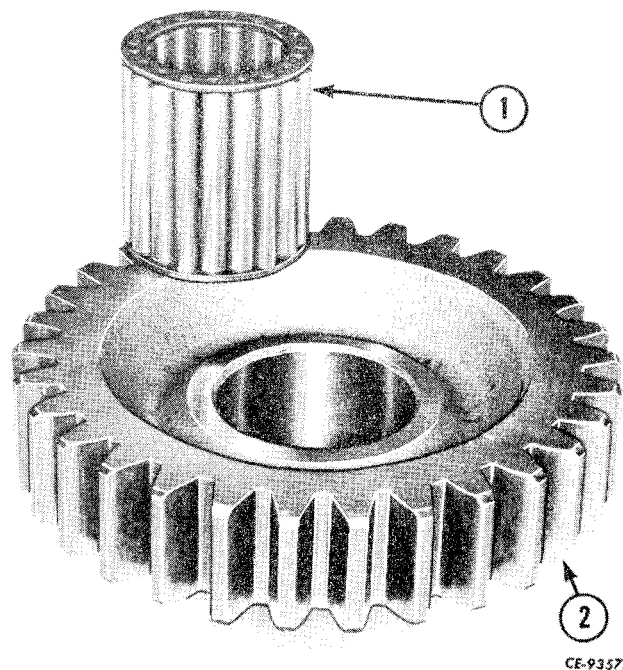

Figure 4-51
Inspect the reverse idler gear (2, Fig. 4-51) and roller bearing (1) for wear or damage. Replace if necessary.